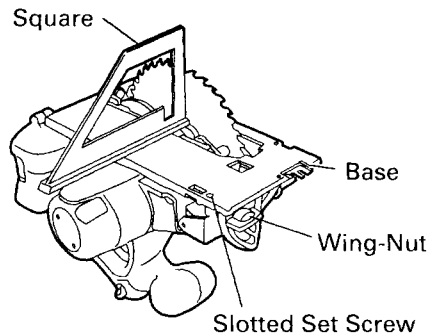

Fig. 23
- (1) Turn the base face up (Fig. 23) and loosen the wing-nut.
- (2) Apply a square to the base and the saw blade and, turning the slotted set screw with a slotted-head screwdriver, shift the position of the base to produce the desired right angle.